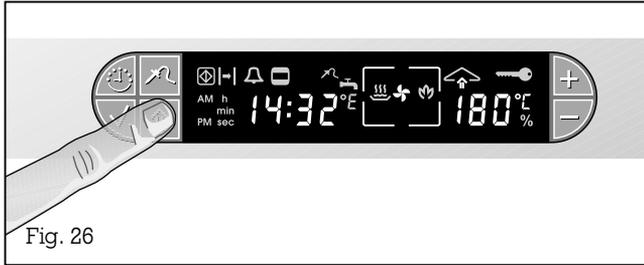

Fig. 26
- Press the  (Steaming / Condensing) key (Fig. 26).